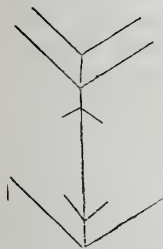

Fig. 91.—Mitred and Keyed Corner.
*Mitred corners* are often seen, but they are never used where strength is essential unless supported in some way, either by blocking inside, as in plinths, which will be found mentioned more fully elsewhere, or by keying. This is a common method for small fancy boxes, as it is strong enough for such work, and is expeditious. The edges to be joined are shot to a mitre, glued, and then further strengthened by strips of veneer, let in as follows:—Saw cuts, a fine saw being used, are made from the corners, not parallel with the top and bottom, but inclined up or down; a small piece of veneer, fitting tightly, is glued and forced in. The edge, not the end, of the veneer should be at the bottom of the cut, so that the grain is transverse. When the glue has set the veneer is trimmed off level with the surface. Such a joint appears as shown in Fig. 91, and will, no doubt, be recognised by many readers. The number of veneer keys depends on the size of the work.